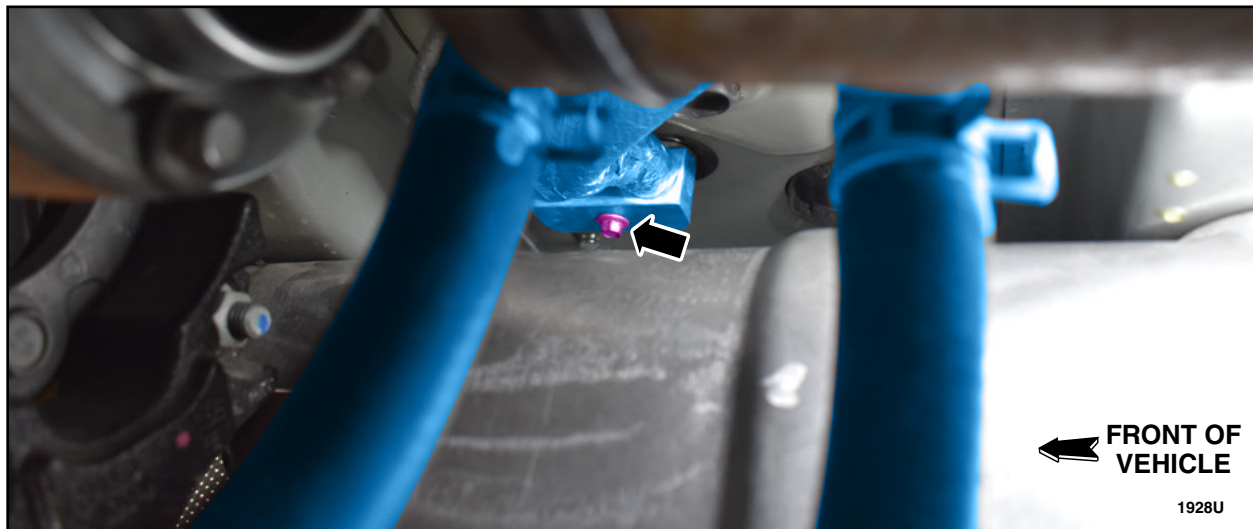

FIGURE 23
24. Install the short portion of the rear heater coolant line and the retainer on the right hand (RH) side of the vehicle above the exhaust heat shield directly under the front passenger seat. See Figure 23.